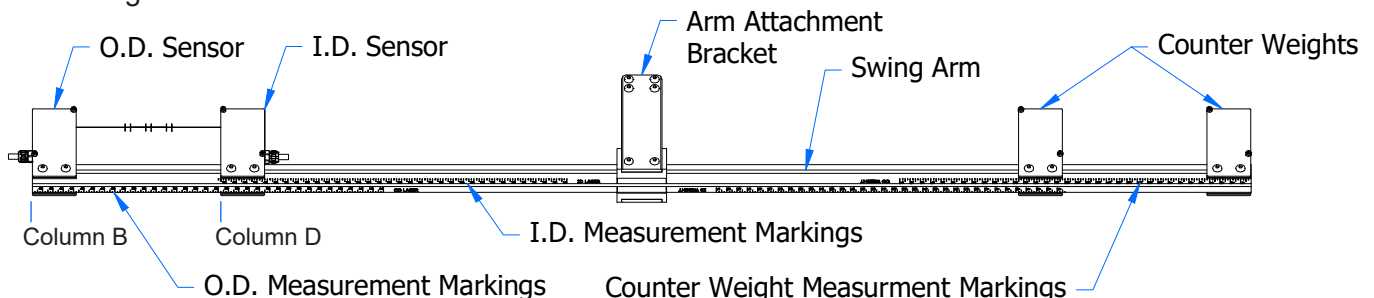

Figure 2-5 - Sensor Position Chart for Swing Arm
1. Attach the arm attachment bracket to the center of the swing arm. Remember that there is separate brackets if operating a Pair/Single or Dual/Quad sensor setup. See fig. 2-5